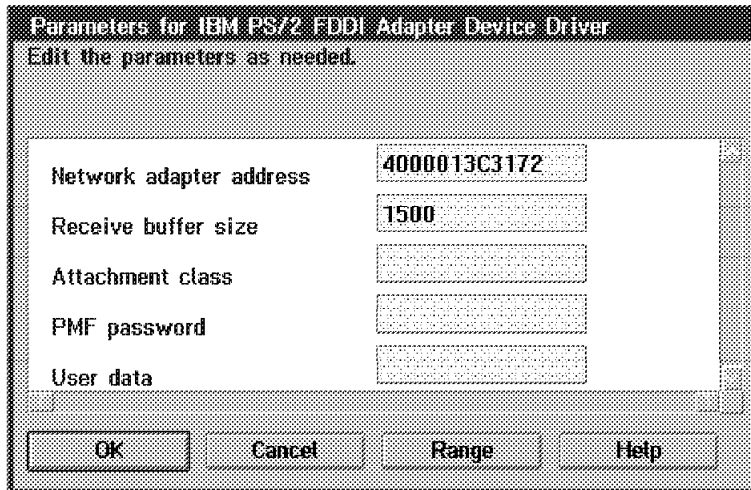

Figure 126. 3172 Edit Adapter Parameters Window for FDDI Adapter
- Step 2. In the Edit Adapter Parameters window for FDDI Adapter, we entered the network address of the FDDI adapter, 4000013C3172 as shown in Figure 126. We left all other parameters at their default values.